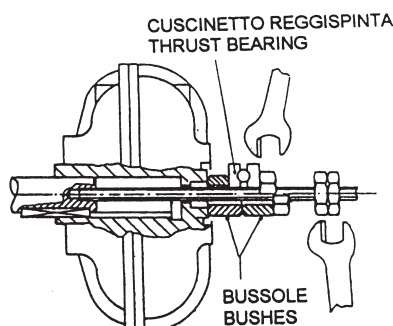

Fig. 3
Non disponendo del cuscinetto reggispira si possono utilizzare due bussole in materiale con basso coefficiente di attrito (es.: nylon) (Fig. 3).
- The best way of mounting is performed by using a threaded bar through the shaft and a thrust bearing (also through the R device if the coupling is equipped with it). The threaded bar will be screwed at the hole placed at the top of the motor shaft. In case the thrust bearing is not available, it is possible to use two bushes at low coefficient of friction (such as nylon) (Fig. 3).